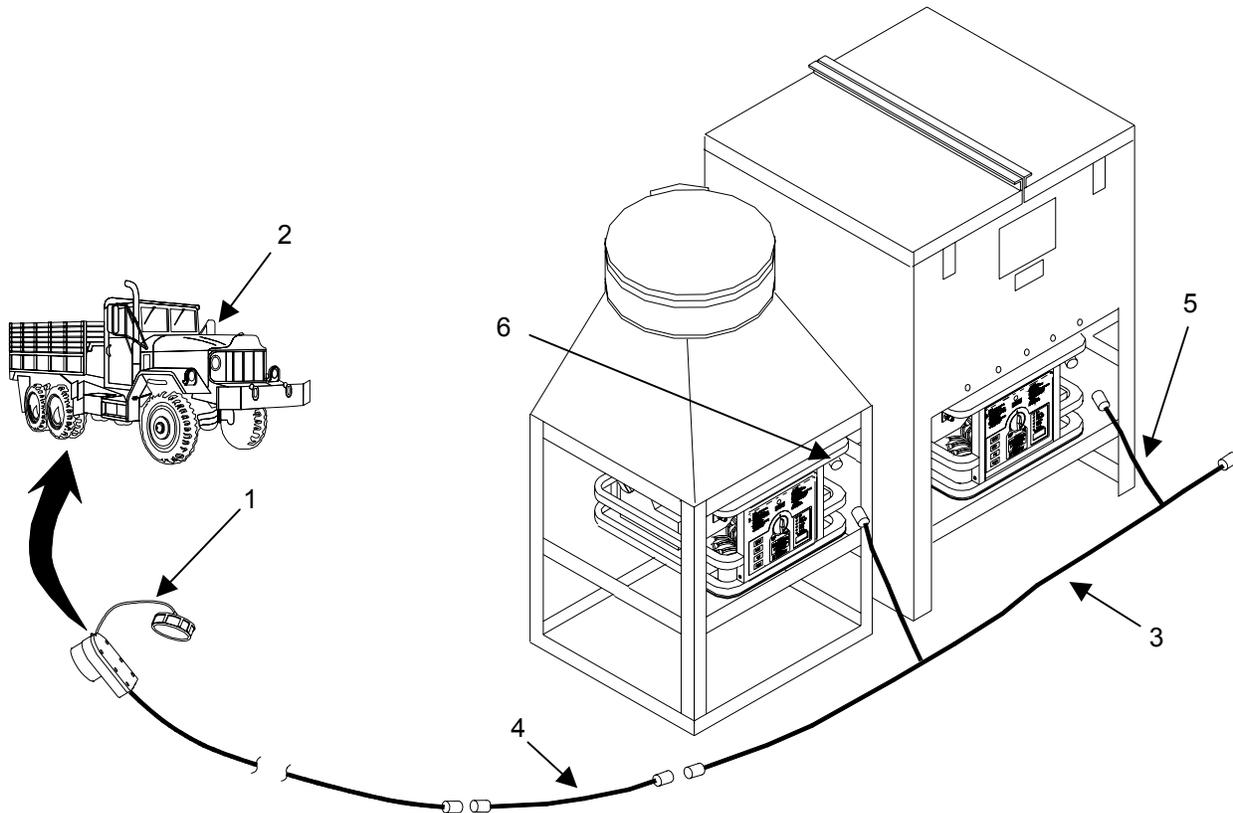

Figure 5. Connect Power Cables Using Vehicular Power Alone
1. Connect the 25-ft NATO adapter cable (**figure 5, item 1**) (24VDC) between the vehicle supplying power (**figure 5, item 2**), and a 2-Branch power cable (**figure 5, item 3**). If additional length is required, connect the 25-ft (24VDC) Extension Cable (**figure 5, item 4**) between the branch cable and the NATO Adapter cable.
2. Connect the cable branches (**figure 5, item 5**) (24VDC) to the individual burners power connectors (**figure 5, item 6**).